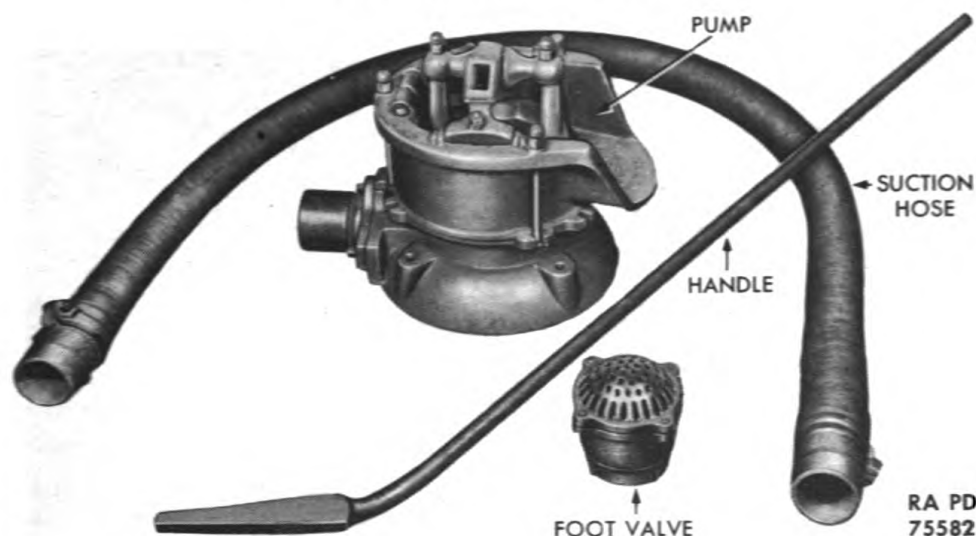

Figure 73 — Hand-operated Diaphragm Pump
a. **Description** (fig. 73). Two large iron castings, base and head, compose the body of the hand-operated diaphragm pump. Between the two castings, a rubber diaphragm is secured. A cast iron diaphragm plate is bolted to the diaphragm. It serves as a base for the discharge valve and as a means of connecting the operating linkage to the diaphragm. Two flap-type valves, constructed of cast iron and rubber, are used. The intake valve is located in the suction hose fitting attached to the base. The discharge valve is located in the center of the diaphragm.